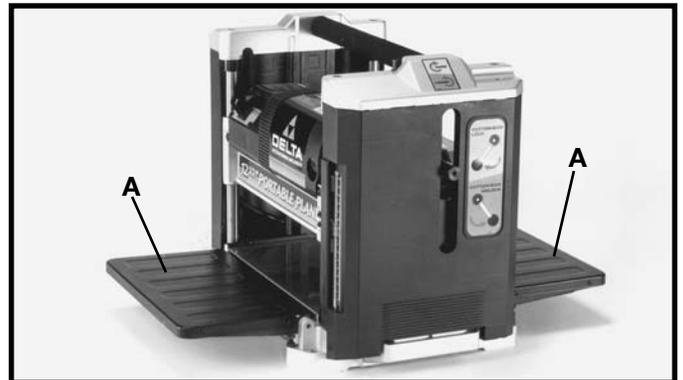

Fig. 4
The infeed and outfeed table extensions (A) Fig. 4, are shipped attached to the machine and rotated to the "UP" position. Rotate both table extensions to the down position as shown. The top surface of the table extensions should be level with the planer table. To check and adjust if necessary, refer to the section of this manual entitled "LEVELING TABLE EXTENSIONS."